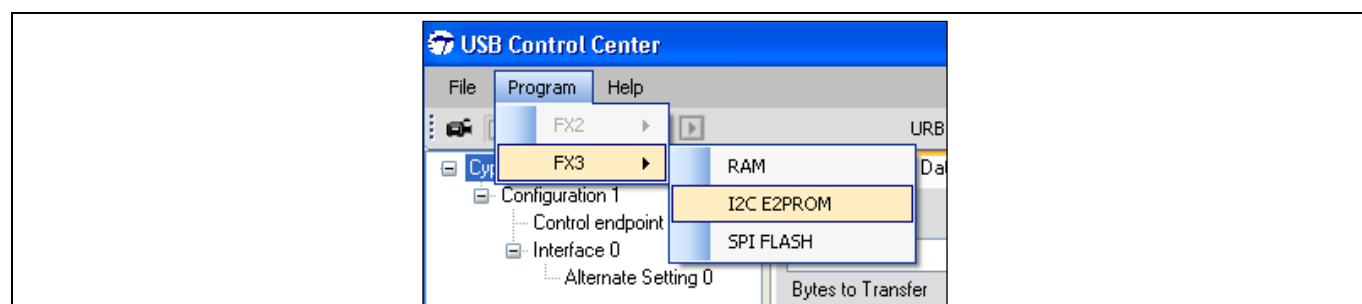
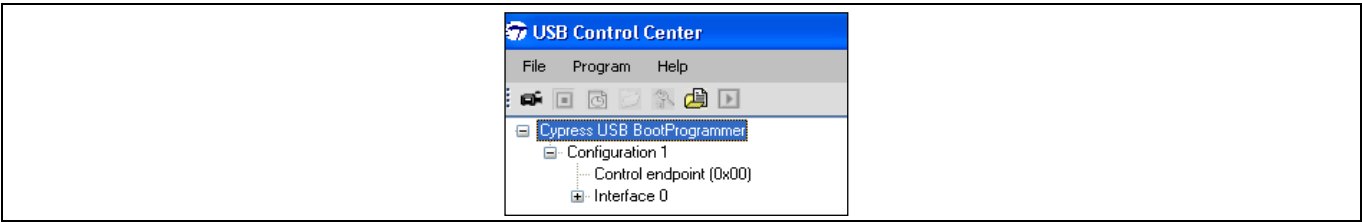

Figure 23 Choose Program > FX3 > I2C E2PROM
Figure 24 FX3 re-enumerates as “Cypress USB BootProgrammer”
4. Before attempting to program the EEPROM, ensure that the address signals of the EEPROM are configured correctly using switch SW40 (For Microchip part 24AA1025, 1-8 ON, 2-7 ON, 3-6 OFF). Also, the I²C Clock (SCL) and data Line (SDA) jumpers J42 and J45 pins 1-2 should be shorted on the DVK board. In the Control Center, select the FX3 device. Next, choose Program > FX3 > I2C E2PROM, as shown in Figure 23. This causes a special I²C boot firmware to be programmed into the FX3 device, which then enables programming of the I²C device connected to FX3. Now the FX3 device re-enumerates as “Cypress USB BootProgrammer,” as shown in Figure 24.